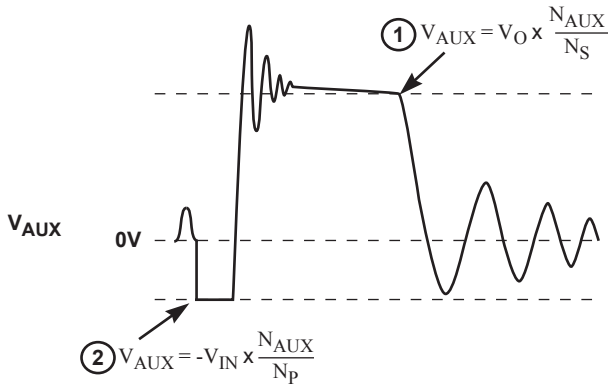

Figure 9.3: Auxiliary Voltage Waveforms
and reflects the output voltage as shown in Figure 9.3.
After a soft-start has been completed, the default output voltage should be 5V and the actual output voltage is related to the external  $V_{SENSE}$  voltage divider network and transformer secondary-to-auxiliary winding turns ratio. The digital control block measures the output conditions. It determines the output power levels and adjusts the control system according to a light load or heavy load. If this is in the normal range, the device operates in the Constant Voltage (CV) mode, and changes the pulse width ( $t_{ON}$ ) and off time ( $T_{OFF}$ ) in order to meet the output voltage regulation requirements. At the steady-state CV operation of 5V setting, the  $V_{SENSE}$  pin voltage at the instant corresponding to point 1 (as indicated in Figure 9.3) is regulated to  $V_{SENSE\_5V(NOM)}$  in most conditions, e.g. 1.536V (typical). If the default output voltage is set to 5V, the iW1780 changes the output voltage to 9V or 12V upon request from the secondary-side controller with the built-in primary-side feedback, scaling, and control. Then this  $V_{SENSE}$  pin voltage changes in proportion to the different output voltage levels.
The secondary maximum output DC voltage  $V_{BUS}$  is limited by the iW1780. In most conditions, when the  $V_{SENSE}$  signal at point 1 as indicated in Figure 9.3 exceeds the output OVP threshold, the iW1780 shuts down. While the iW1780 can protect against the  $V_{OUT}$  over-voltage through the  $V_{SENSE}$  signal in most conditions, it is difficult for the iW1780 to protect the over-voltage caused by output voltage setting mismatch between the iW1780 and the iW626 in some abnormal scenarios. For example, if the iW626 is reset to 5V due to a reset signal from PD or certain other abnormal signals while the iW1780 stays at present 9V or 12V setting, the over-voltage cannot be detected through  $V_{SENSE}$  at the primary side. The iW1780/iW626 chipset added one more layer of OVP. When the  $V_{OUT}$  rises to above the over-voltage threshold of the iW626's present state, the iW626 drives the DRV pin in a special switching pattern serving as an OVP signal and turns on both the fast and slow discharge. After the iW1780 receives this OVP signal, it shuts down the power supply promptly.